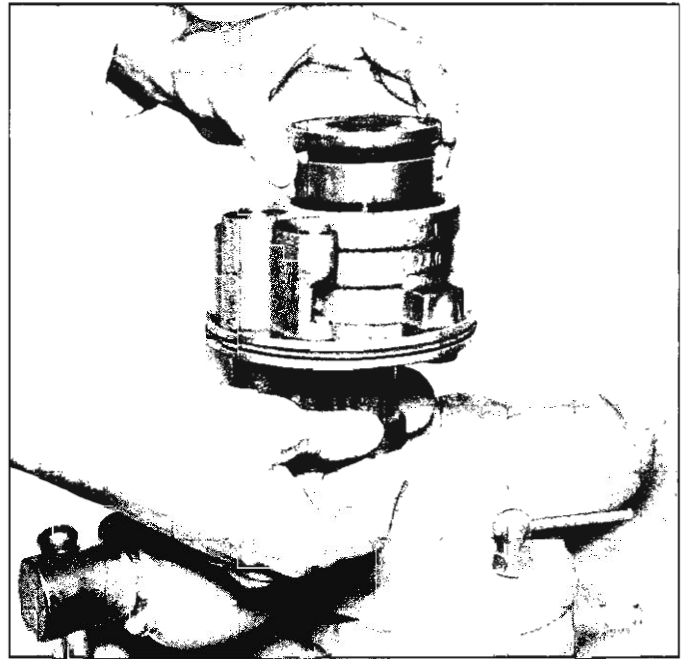

Fig. 64—Impeller Unit Removal
8. With pump in vise, remove shaft woodruff key and tap end of shaft gently with soft hammer until pressure plate, pump ring, rotor assembly and thrust plate may be removed as a unit (fig. 64).